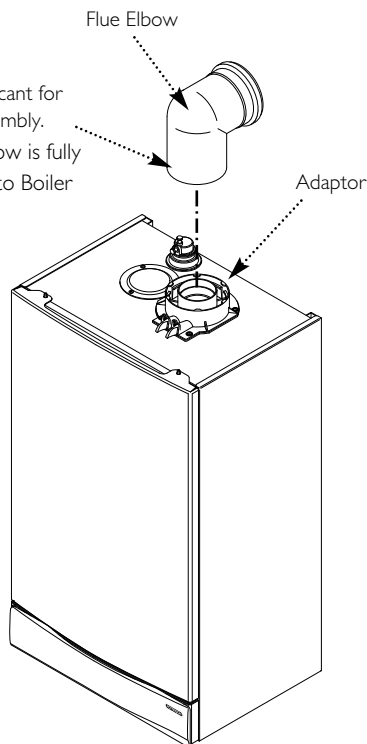

Fig. 47
2. Locate the flue elbow on the adaptor at the top of the boiler. Set the elbow to the required orientation (Fig. 47). The elbow is fully engaged when there is a distance of 20mm from the adaptor to the indicator line (Fig. 46).